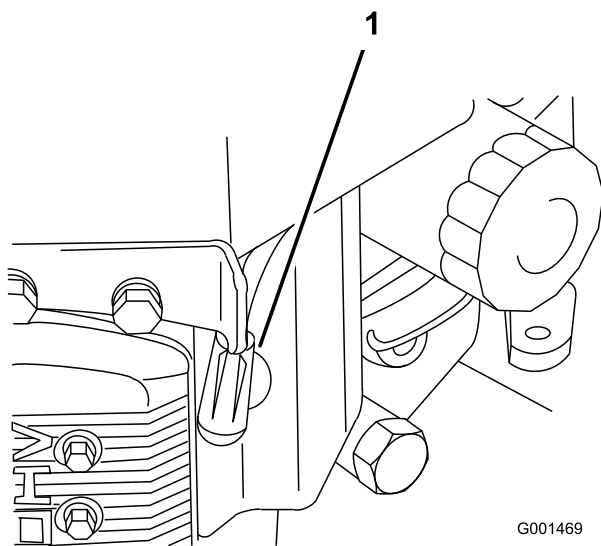

Figure 35
3. Disconnect the wires from the spark plugs (Figure 35).